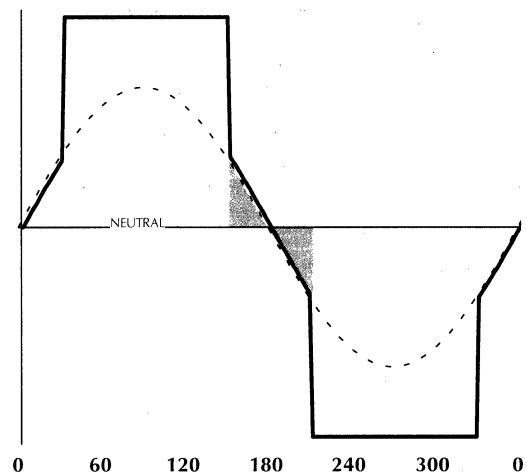

Figure 2. Typical motor phase waveform with Back-EMF superimposed (Ideal Commutation)
The ML4411 contains a patented back-emf sensing circuit which samples the phase which is not energized (Shaded area in fig. 2 below) to determine whether to increase or decrease the commutator (VCO) frequency. A late commutation causes the error amplifier to charge the filter (RC) on pin 20, increasing the VCO input while early commutation causes pin 20 to discharge. Analog speed control loops can use Pin 20 as a speed feedback voltage.